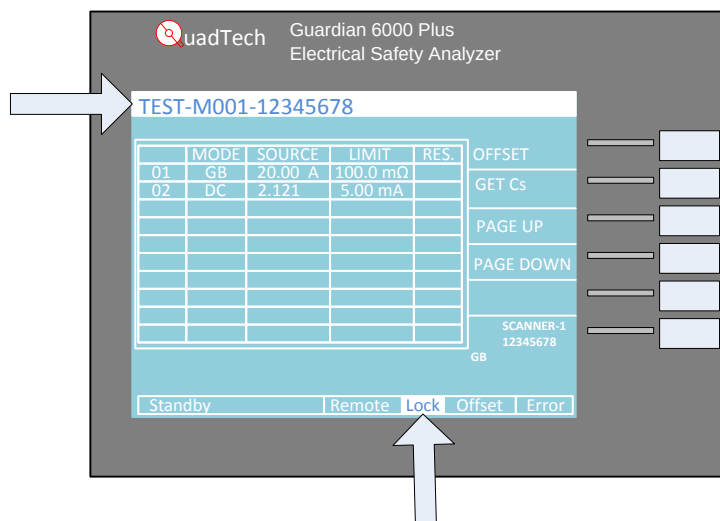

Figure 16: QuadTech Guardian 6000 Plus / Chroma 19032 Final Setup Screen
- 6.4.4. Press the **TEST** soft key. The display will appear as in Figure 16, with the test program displayed (TEST-M001-12345678), and the **LOCK** text in reverse test.